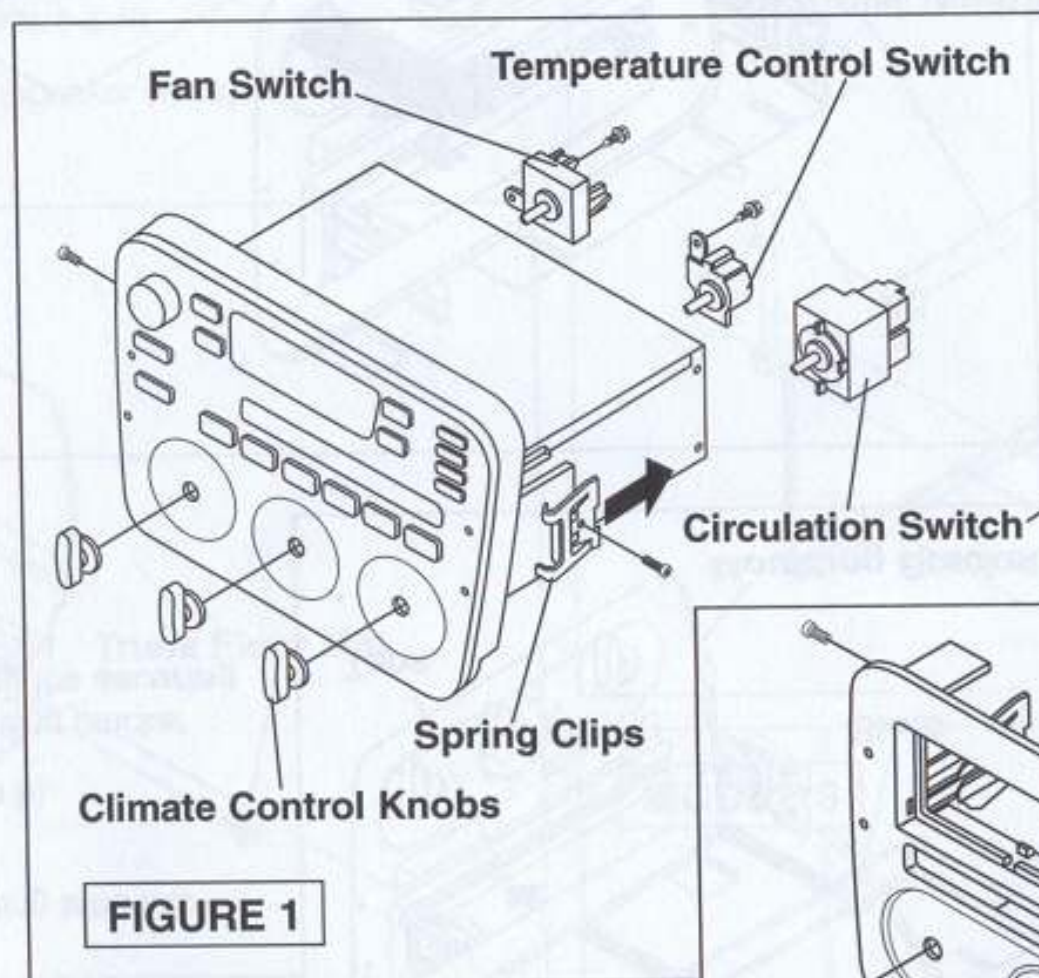
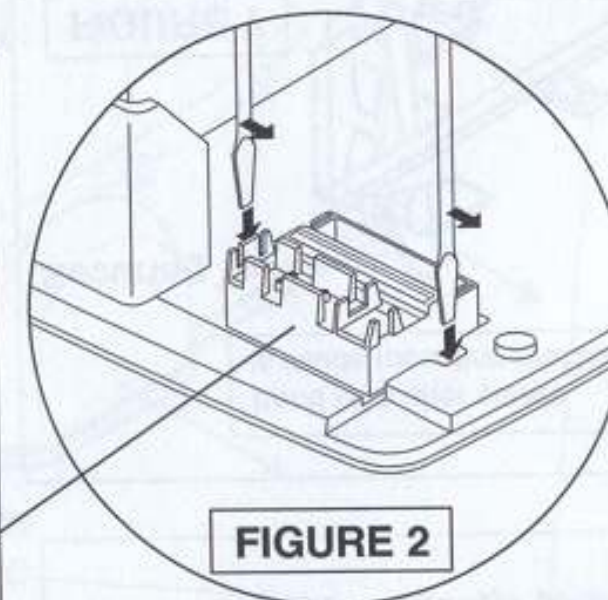

FIGURE 1
FIGURE 2
1. Turn each **climate control knob** on factory radio/climate control assembly in the vertical position and pull off knobs (Figure 1).
2. Remove one (1) 5mm screw securing **fan switch** to rear of assembly. Rotate switch *counter-clockwise* 1/4 turn to remove switch.
3. Remove one (1) 5mm screw from **temperature control switch** and turn 1/4 turn *clockwise* to remove switch.
4. Pry out **circulation switch** from top and bottom of switch with a small flat blade screwdriver as shown (Figure 2).
5. Remove two (2) Torx T-15 screws (one on each side) from **spring clips** on sides of factory assembly. Pry up clips and slide off **mounts** (Figure 1).